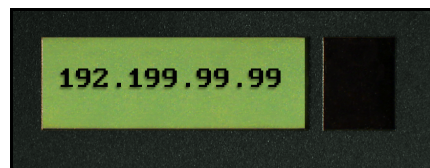

FIG. 4 Example of the initial DHCP display
- After the unit has successfully obtained an IP Address from the DHCP Server, it then displays this obtained DHCP Address across the front LCD (FIG. 4).